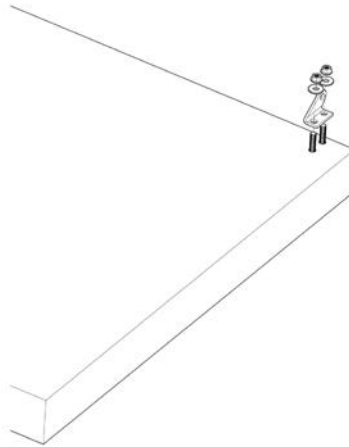

Figure 8
31. Install the rear anchor tie down bolt (item 17) on the rear of the unit and secure the anchor bolt to the floor anchor insert.
32. Attach the backboard padding to the backboard. Attach the horizontal boom pad (item 8) to the boom just behind the backboard.
34. Install the Upright pad (item 6) to the front upright using $\frac{1}{4}$ "-20 pan head screws (item 21).
35. Install the remainder of the padding using the $\frac{1}{4}$ " studs (item 20), flat washers (item 28), and nuts (item 27).
36. Attach the hinge bracket (item 13) to the front base pad (item 3). Refer to figure 8.